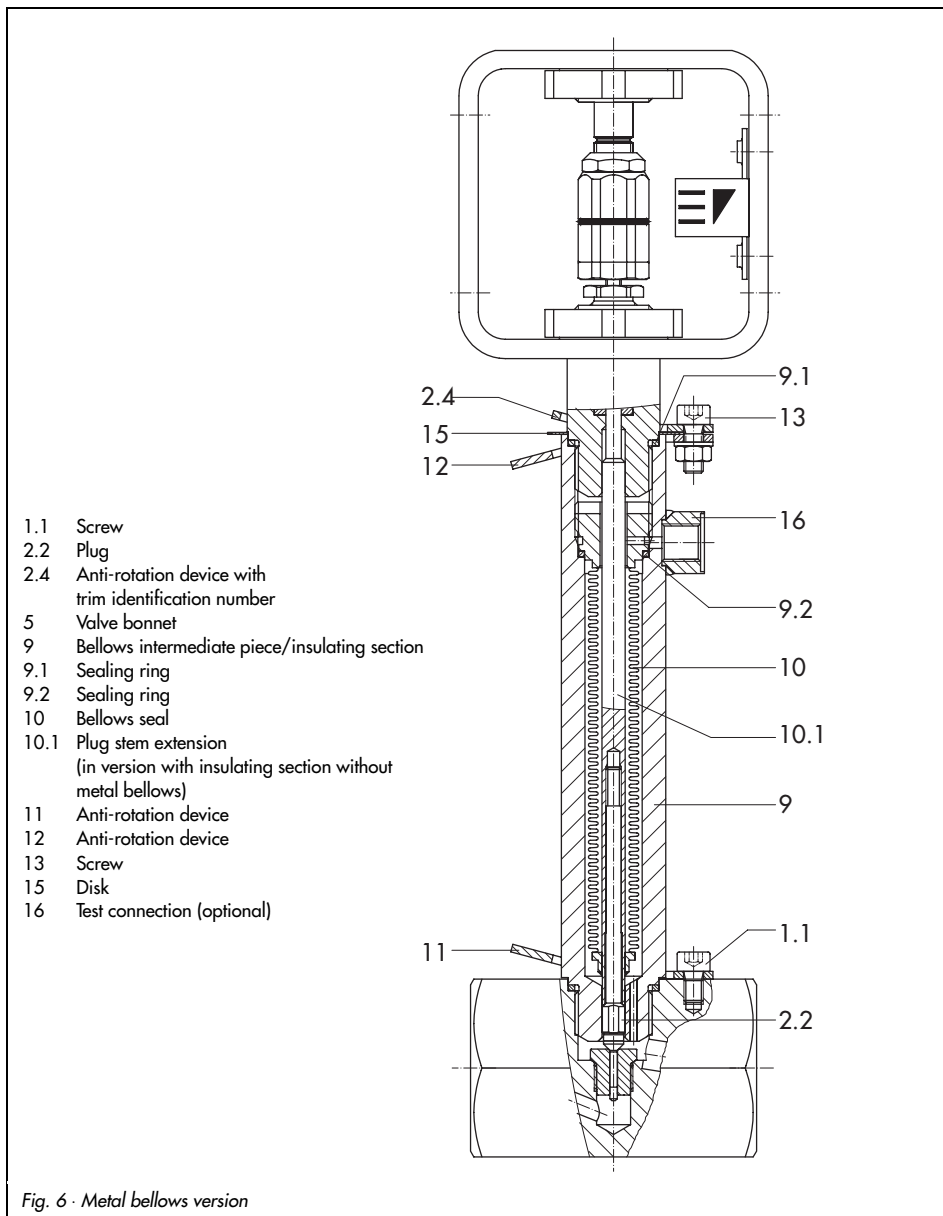

Fig. 6 · Metal bellows version
2. Unscrew the bottom slotted round nut (5.2). Remove actuator (8) including yoke (6) from the valve, turning the slotted round nut (5.2), so that a groove points towards the travel indicator scale (6.1).
3. Take out the nuts (3). Remove stem connector sleeve (7.2) from the plug stem.
4. Remove the screw (1.1) and the anti-rotation device (2.4). Unscrew the valve bonnet (5) from the valve body.
5. Unscrew threaded bushing (5.1). Pull the plug stem, together with the plug (2.2), out of the valve bonnet (5).
For versions with bellows intermediate piece or insulating section, separate valve bonnet and bellows intermediate piece/insulating section (9). The plug stem extension (10.1, Fig. 6) remains fixed in the extension bonnet.
6. Remove packing washers (4.1) and packing rings (4) from the packing chamber using a suitable tool. Make